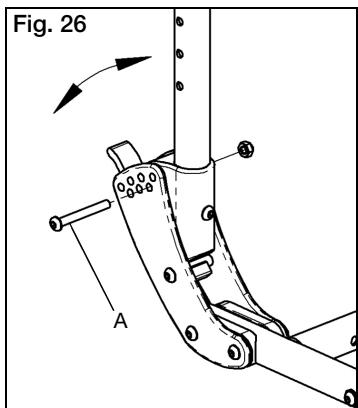

Fig. 26
- Using a 4mm Allen wrench and a 10mm wrench, remove button head screws (Fig. 26:A) with their washers and nuts.